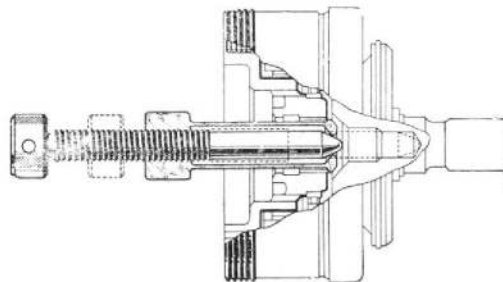

Fig. 23. Clutch housing extractor
- (4) Remove the inner housing using extractor MK 3855 (fig. 23), taking care to collect the twenty-eight springs located in the inner housing flange. Unscrew the bolt to permit the split collet to be engaged in the final drive shaft, and then screw the bolt down to effect removal. If necessary, the bearing on this housing may be removed by inserting a punch through the small holes inside the housing (17, fig. 30), and tapping off the inner race.